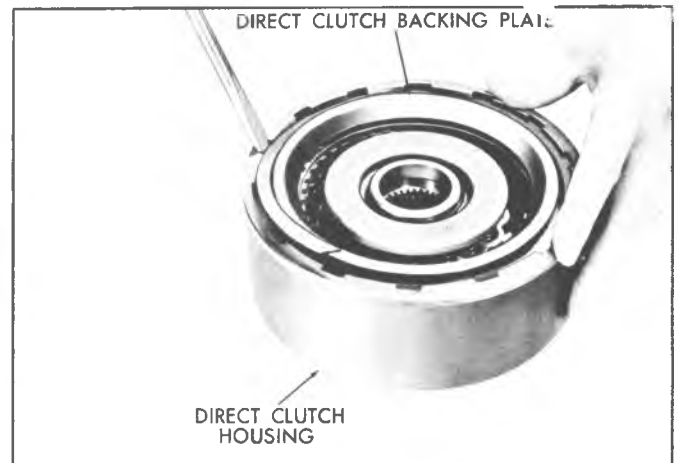

Fig. 91T--Installing Direct Clutch Housing to Backing Plate Snap Ring
- 9. Install backing plate retaining snap ring (fig. 91T).